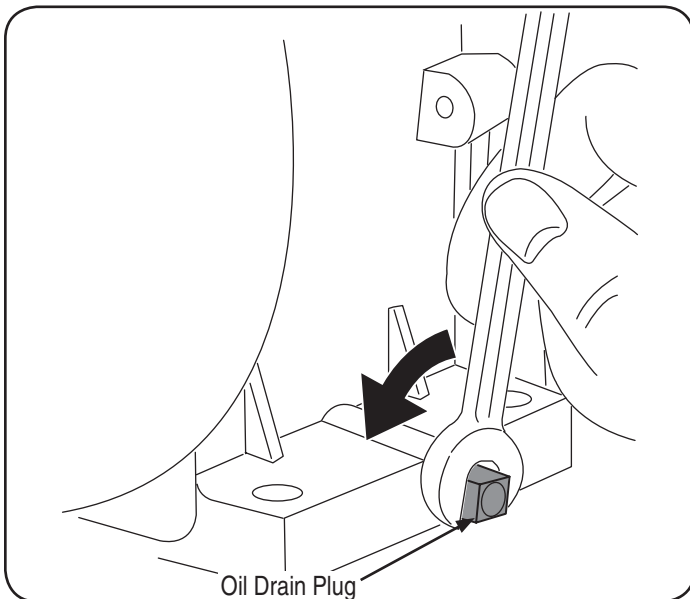

Figure 14
4. Remove the oil drain plug, Figure 14.